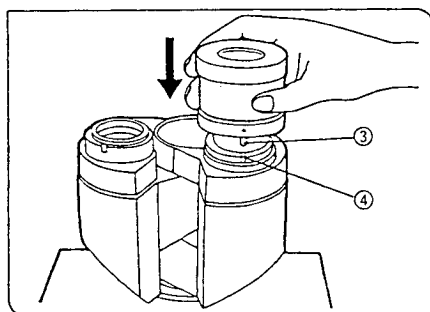

Fig. 18
When using a finder eyepiece or an eyepiece with micrometer adjustment, insert this eyepiece into the right-hand eyepiece sleeve. When doing so, make sure that the eyepiece positioning pin ③ fits into the notch ④ on the eyepiece sleeve. (Fig. 18)